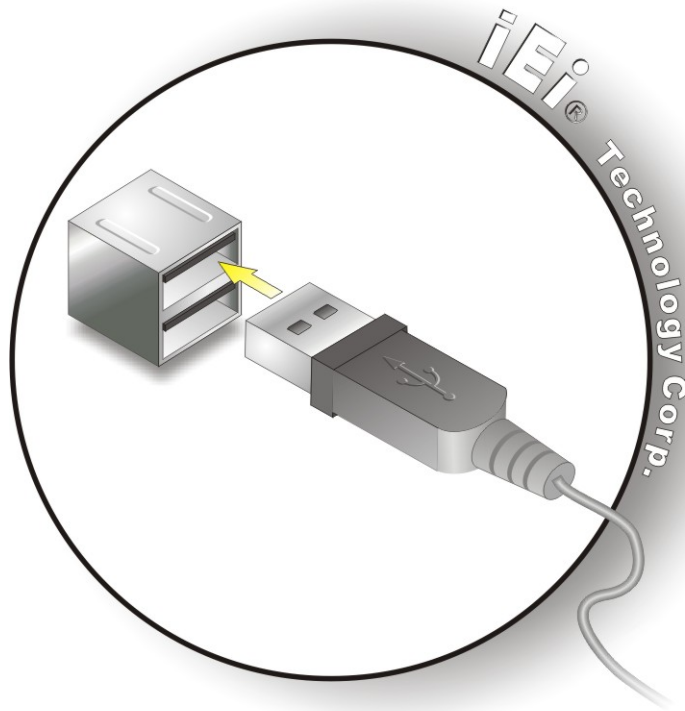

Figure 4-21: USB Connector
Step 2: Insert a USB Series "A" plug. Insert the USB Series "A" plug of a device into the USB Series "A" receptacle on the external peripheral interface. See Figure 4-21.